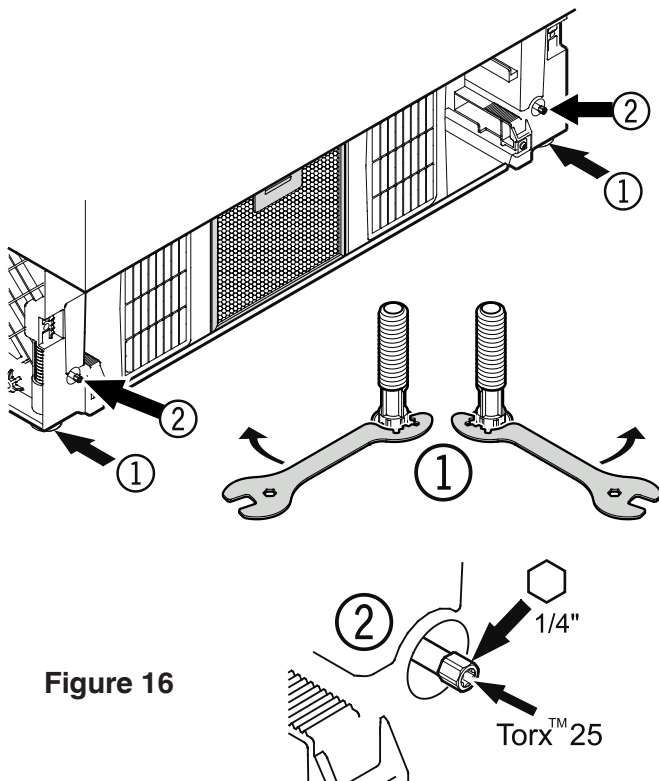

Figure 16
Leveling the Appliance - Figure 16
1. Adjust the height of the appliance at the front by twisting the leveling feet (1). Use the open-ended spanner provided.
Turn the spanner counterclockwise to raise the appliance front and clockwise to lower it. Position the spanner accordingly (**Figure 16 - (1)**).
2. Adjust the height of the appliance at the rear by turning the adjusting bolts (2). Use a 1/4" box spanner or the Torx 25 wrench provided.
3. Rotate leveling feet (1) until firmly in place against the floor.
To prevent the appliance from tipping forward the leveling feet (1) (**Figure 16**) must have contact with the floor.